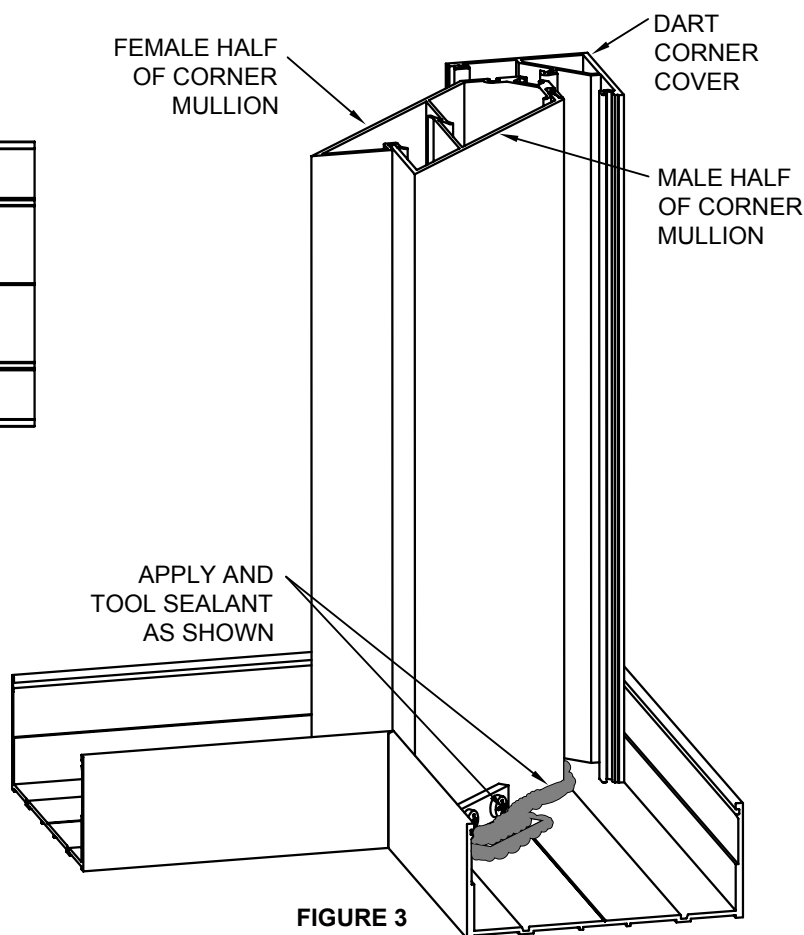

FIGURE 3
- STEP B:** Install female dart corner half into head and sill receptors and position in corner. Do not damage the sill receptor splice joint. (Figure 3)